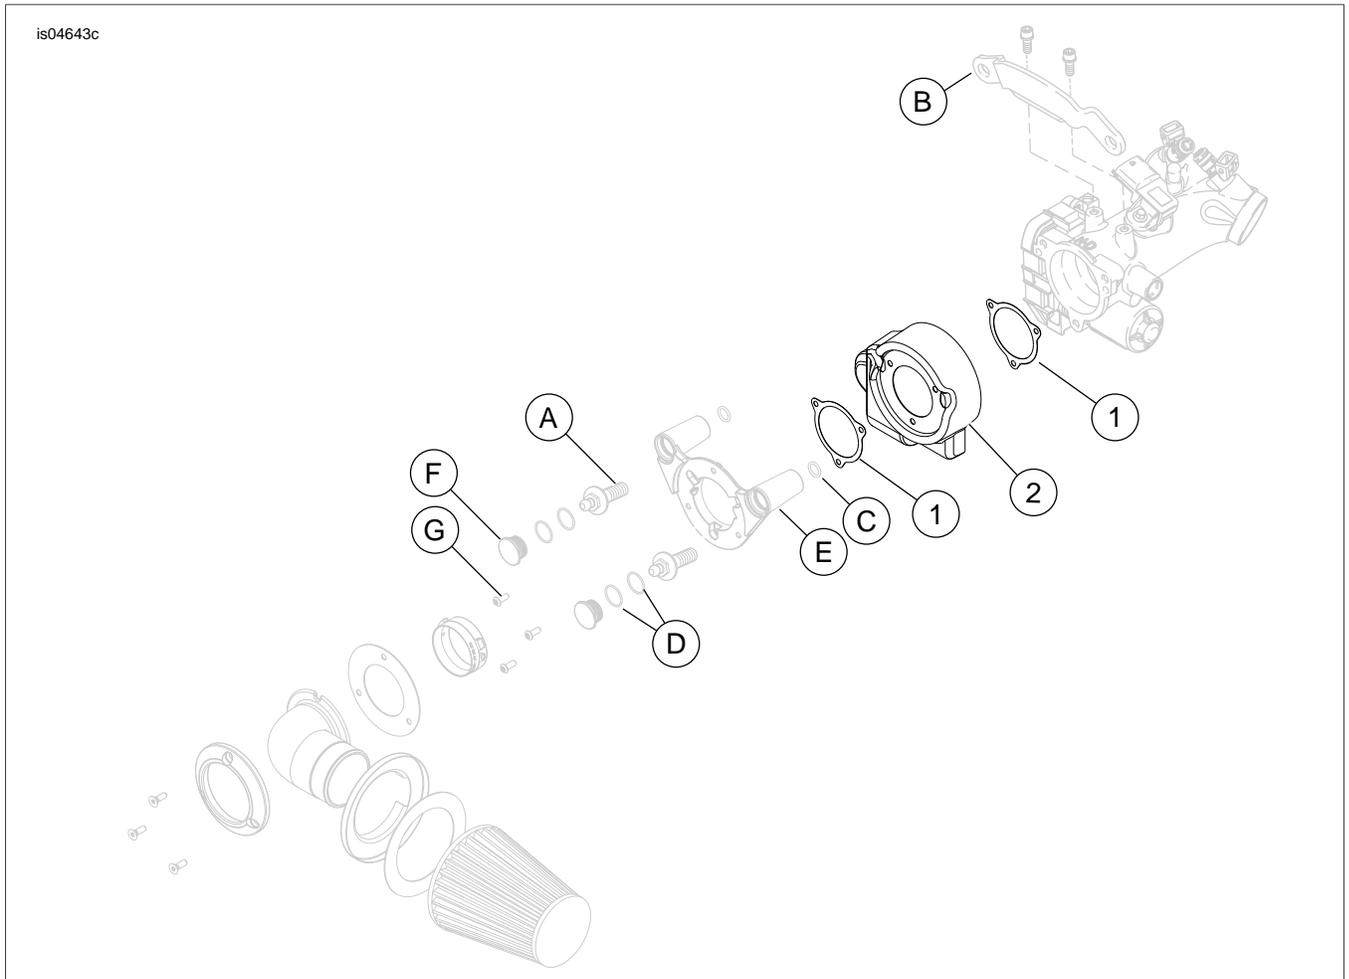

Figure 1. Service Parts: Screamin' Eagle Induction Module Cover
See Figure 1 and Table 1.
2. **For Models Equipped with Original Equipment Air Cleaner:** See Figure 1.
- c. Retain the two breather screws (A) removed from the backplate.
- d. Remove and discard support induction module bracket (B).
3. **For Models Equipped with Heavy Breather Air Cleaner:** See Figure 1. Remove and disassemble air cleaner following instructions in service manual or instruction sheet.